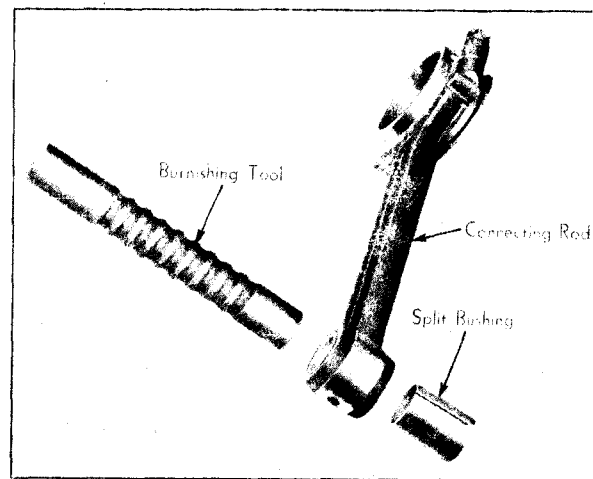

Fig. 62. The piston pin bushing is burnished to press the bronze into close contact with the steel rod leaving a long hard-wearing bearing surface
A new split type of piston pin bushing is used. It is made from thin flat bronze stock. These thin bushings cannot be pressed into the rods in the usual way but must be inserted loosely and expanded by means of a burnishing tool (Fig. 62). This presses the bronze into intimate contact with the steel of the rod and leaves a hard, dense surface with long wearing qualities. Another important factor is the quality of the bushing to retain a more nearly uniform clearance under high temperatures.
(1) Install the bushing in the side of the connecting rod having the large chamfer in the bearing for the crank pin. Make sure that the oil hole in the bushing is in line with the oil hole in the connecting rod and the split is at right angles to the length of the rod.
(2) Press bushing in rod using bushing replacer, tool No. HMJ-250-3. Use a No. 2 or No. 3 Greenard arbor press or its equivalent to press in the bushing.
(3) Expand the bushing with Expanding Bar (tool No. HMJ-250-1). If the bushing protrudes through the connecting rod, file it flush with the rod before burnishing.
(4) Burnish bushing by passing burnishing tool No. HMJ-250-2 through the bushing. See Fig. 62. When expanding or burnishing a bushing use a heavier press such as a No. 3½ Greenard or its equivalent.